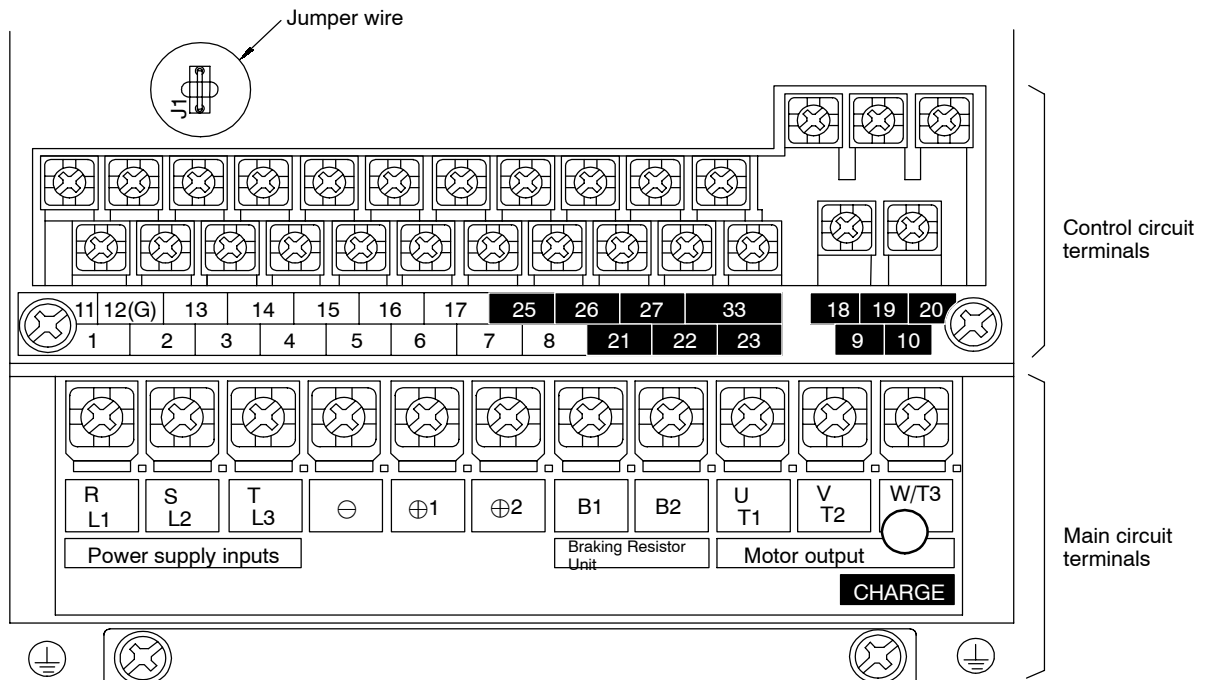

Fig 7.11 Jumper Wire Location for 200 V Class Inverter of 0.4 kW
- When supplying a voltage input to the frequency reference current input (terminal 14) (a setting of 0 or 1), be sure to disconnect jumper wire J1 on the control board. (See Figure 7.11) If the jumper wire isn't disconnected, the input resistor will be destroyed.
- When supplying a voltage input to the frequency reference current input (terminal 14), be sure to disconnect jumper wire J1 on the control board. If the jumper wire isn’t disconnected, the input resistor will be destroyed. Refer to Figure 7.11 for a diagram of the control board.